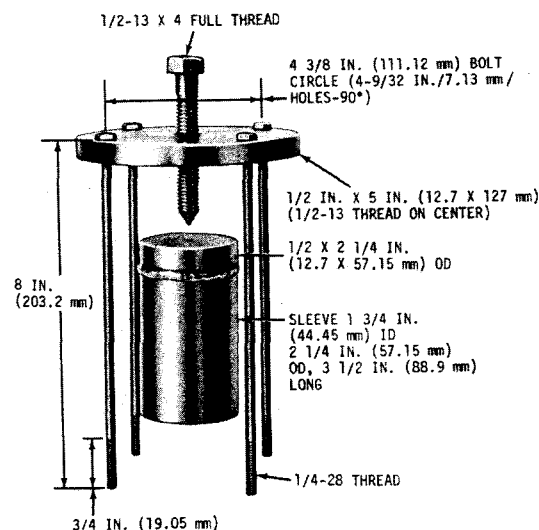
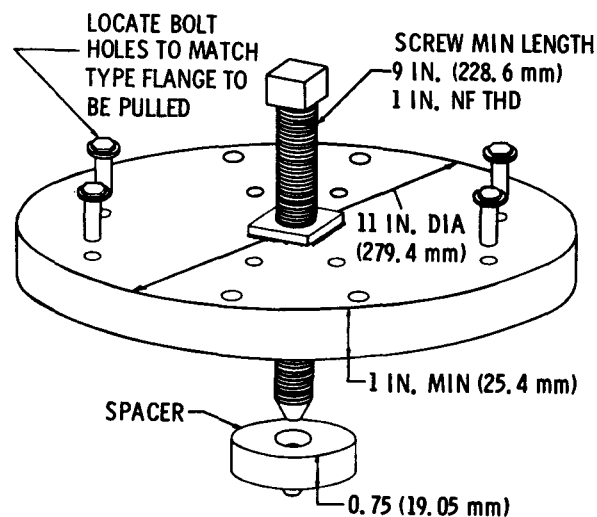
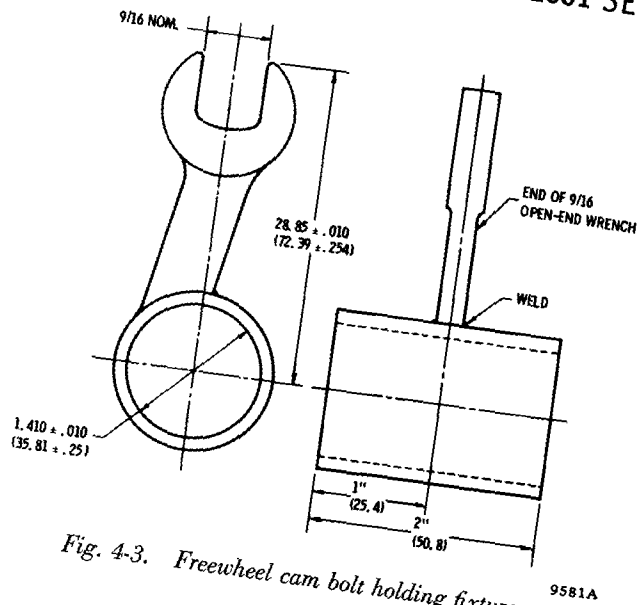
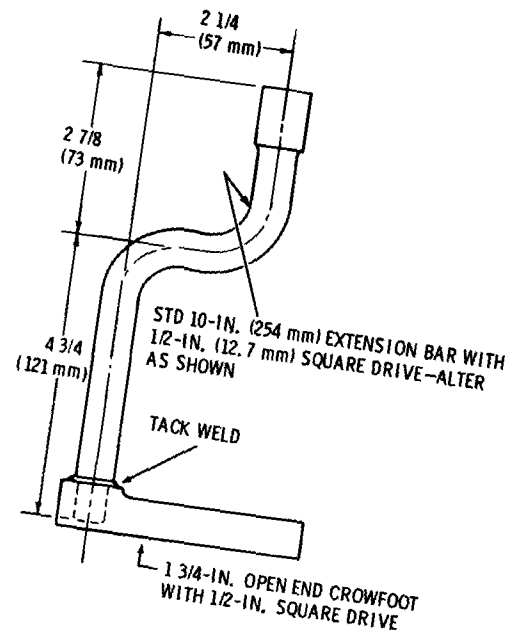

Fig. 4-1. Improvised puller for converter pump assembly
Fig. 4-2. Typical interference-fit flange puller
Fig. 4-3. Freewheel cam bolt holding fixture
Fig. 4-4. Special wrench for oil suction tube nut
The tools required for overhaul are shown in figures 4-1, 4-2, 4-3, and 4-4. Figure 4-1 illustrates a puller assembly and sleeve used to remove the converter pump. This tool, Part No. J23547, may also be obtained from Service Tool Division, Kent-Moore Corporation, 1501 S. Jackson Street, Jackson, Michigan, 49203. Figure 4-2 illustrates a flange puller for removal of interference-fit flanges and figure 4-3 illustrates a holding fixture used to prevent rotation of the freewheel cam bolts. Figure 4-4 illustrates a special wrench used to install the male nut that attaches the oil suction tube. In addition to ordinary hand tools, the following items should also be available.
a. Removal. When the interference-fit flanges are used, they should be removed prior to complete disassembly. A heavy-duty puller kit or one similar to that shown in figure 4-2 is required. A heavy steel plate may be bolted to the ears of the flange to provide a grip surface for the puller jaws and prevent distortion. A steel bar may be used to prevent rotation of the flange during the pulling process. Removal of the Torqmatic coupling requires a puller which will engage the internal groove within the coupling hub. Always place a spacer between the transmission shaft and puller draw bolt to protect the end of the shaft.